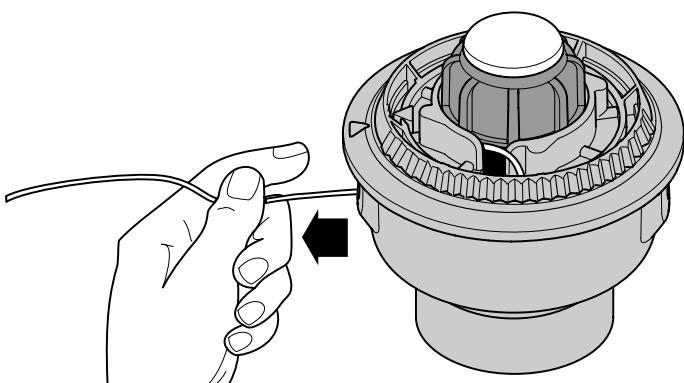

Fig. 44
- Pull the line from the outer spool until the line is tight against the inner reel (Fig. 44).